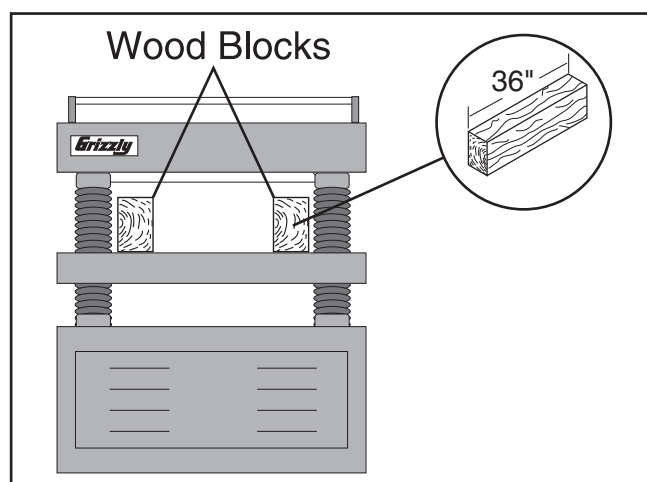

Figure 67. Wood blocks properly positioned on the planer table.
5. Place wood blocks along sides of table, as illustrated in **Figure 67**.